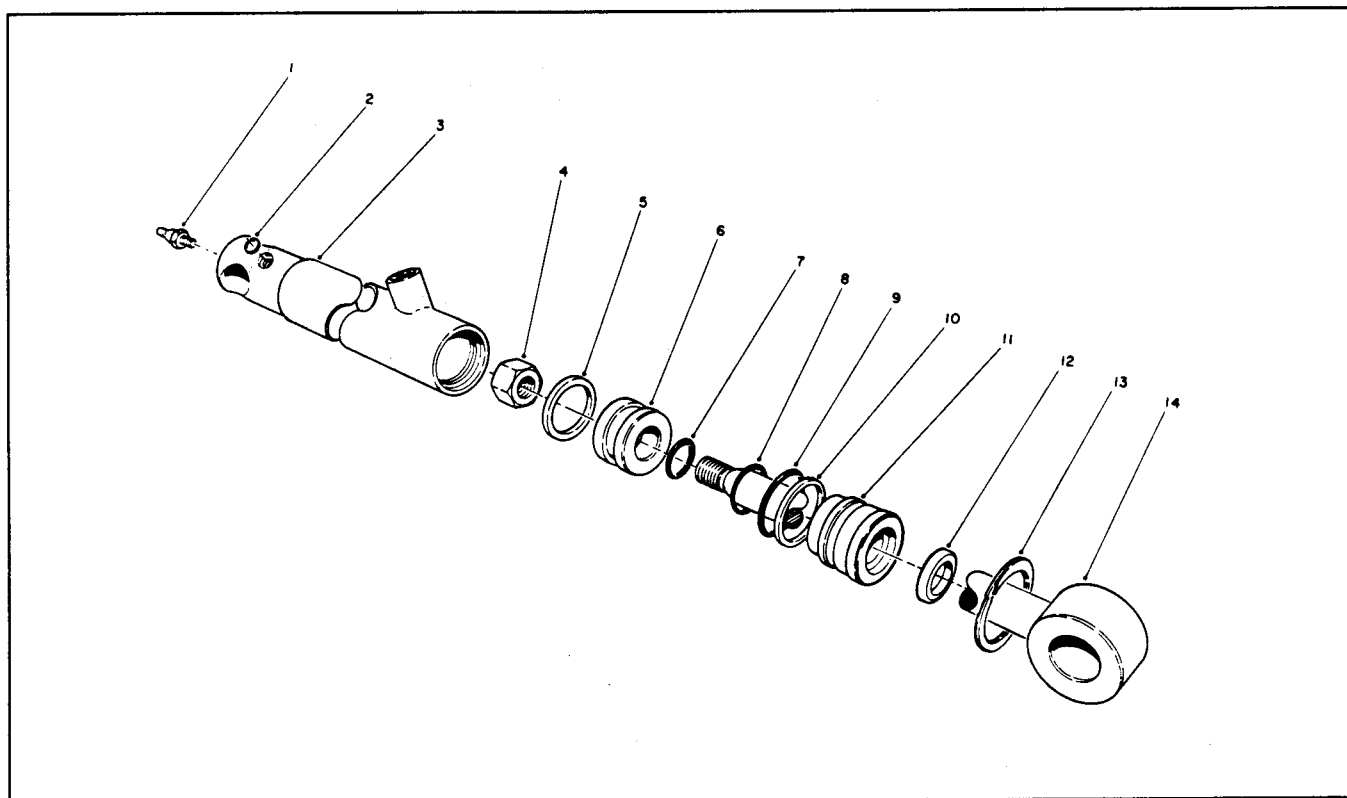

Figure 34
NOTE: The parts shown in the illustration above (Fig. 34) may not be the same as on your machine. Refer to the Parts Catalog (with the correct Model and Serial Number of your machine) for the correct parts illustration.
4. Remove the retaining ring (Fig. 34). Grasp the clevis end of the shaft and use a twisting and pulling motion to carefully extract the piston, shaft, and head from the barrel.